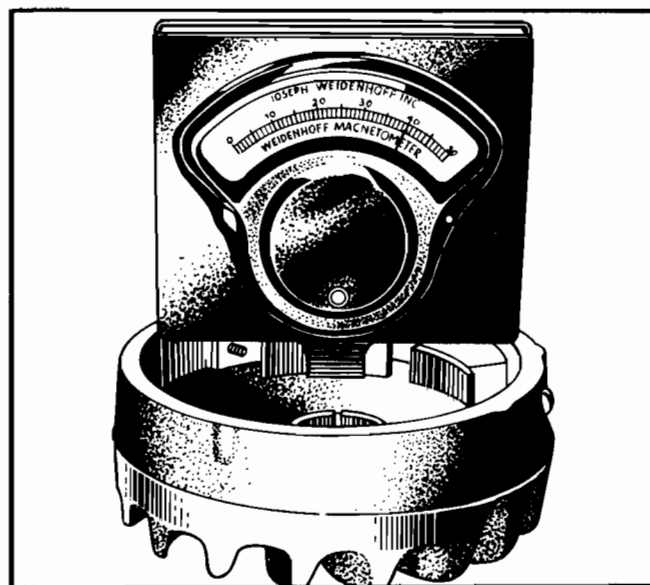

Figure No. 21—Testing Flywheel Magneto
3. Compare a questionable magnet to a new assembly using a magneto-meter. (See Figure No. 21.)